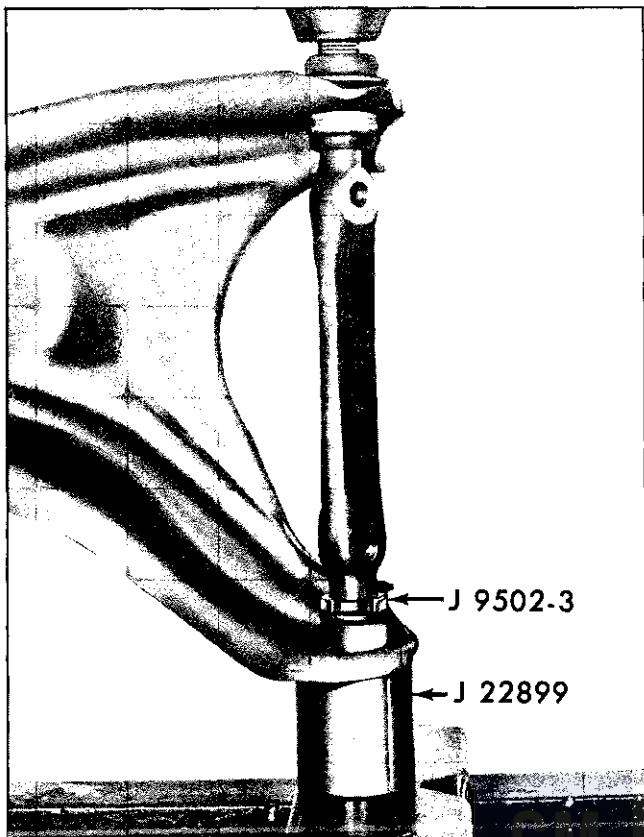

Fig. 3-14 Removing Upper Control Bushing
1. Invert control arm as shown in Fig. 3-14, and press bushing out.